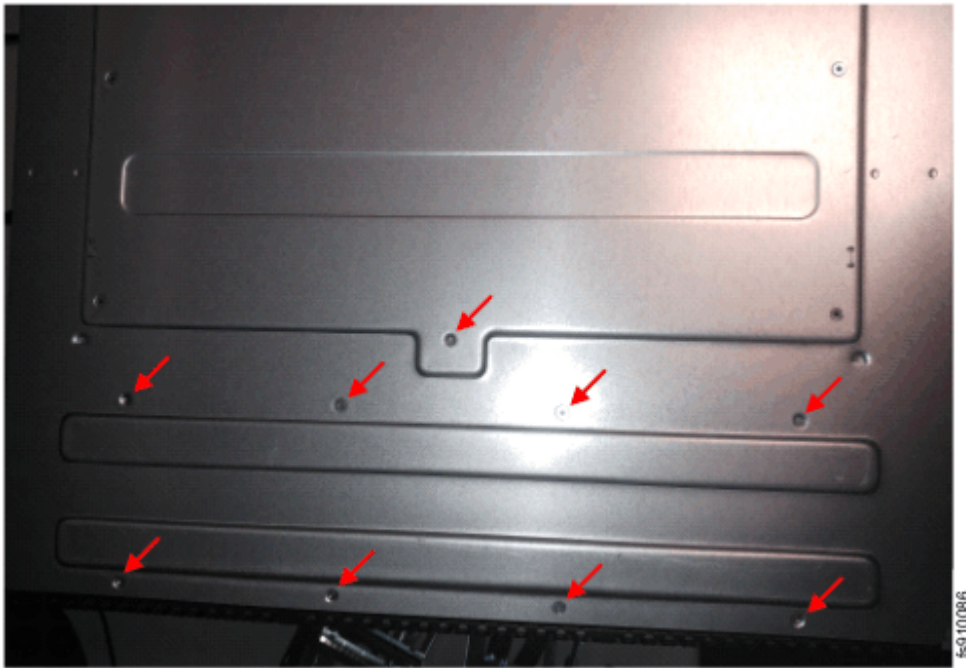

Figure 118. Location of the screws on the underside of the control enclosure
14. Remove the nine screws from under the front of the enclosure (see Figure 118 on page 156).